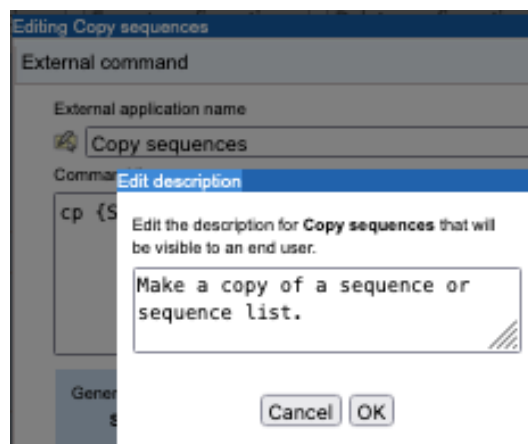

Figure 16.6: Click on the small icon to the left of the "External application name" field to add a description.
**External application name** The name of the external application, as it will be seen by client software. Click on the small icon to the left to add a description (figure 16.6). This description will then be available in client software. For example, in a *CLC Workbench*, it is available in a tooltip when the mouse cursor is hovered over the external application name